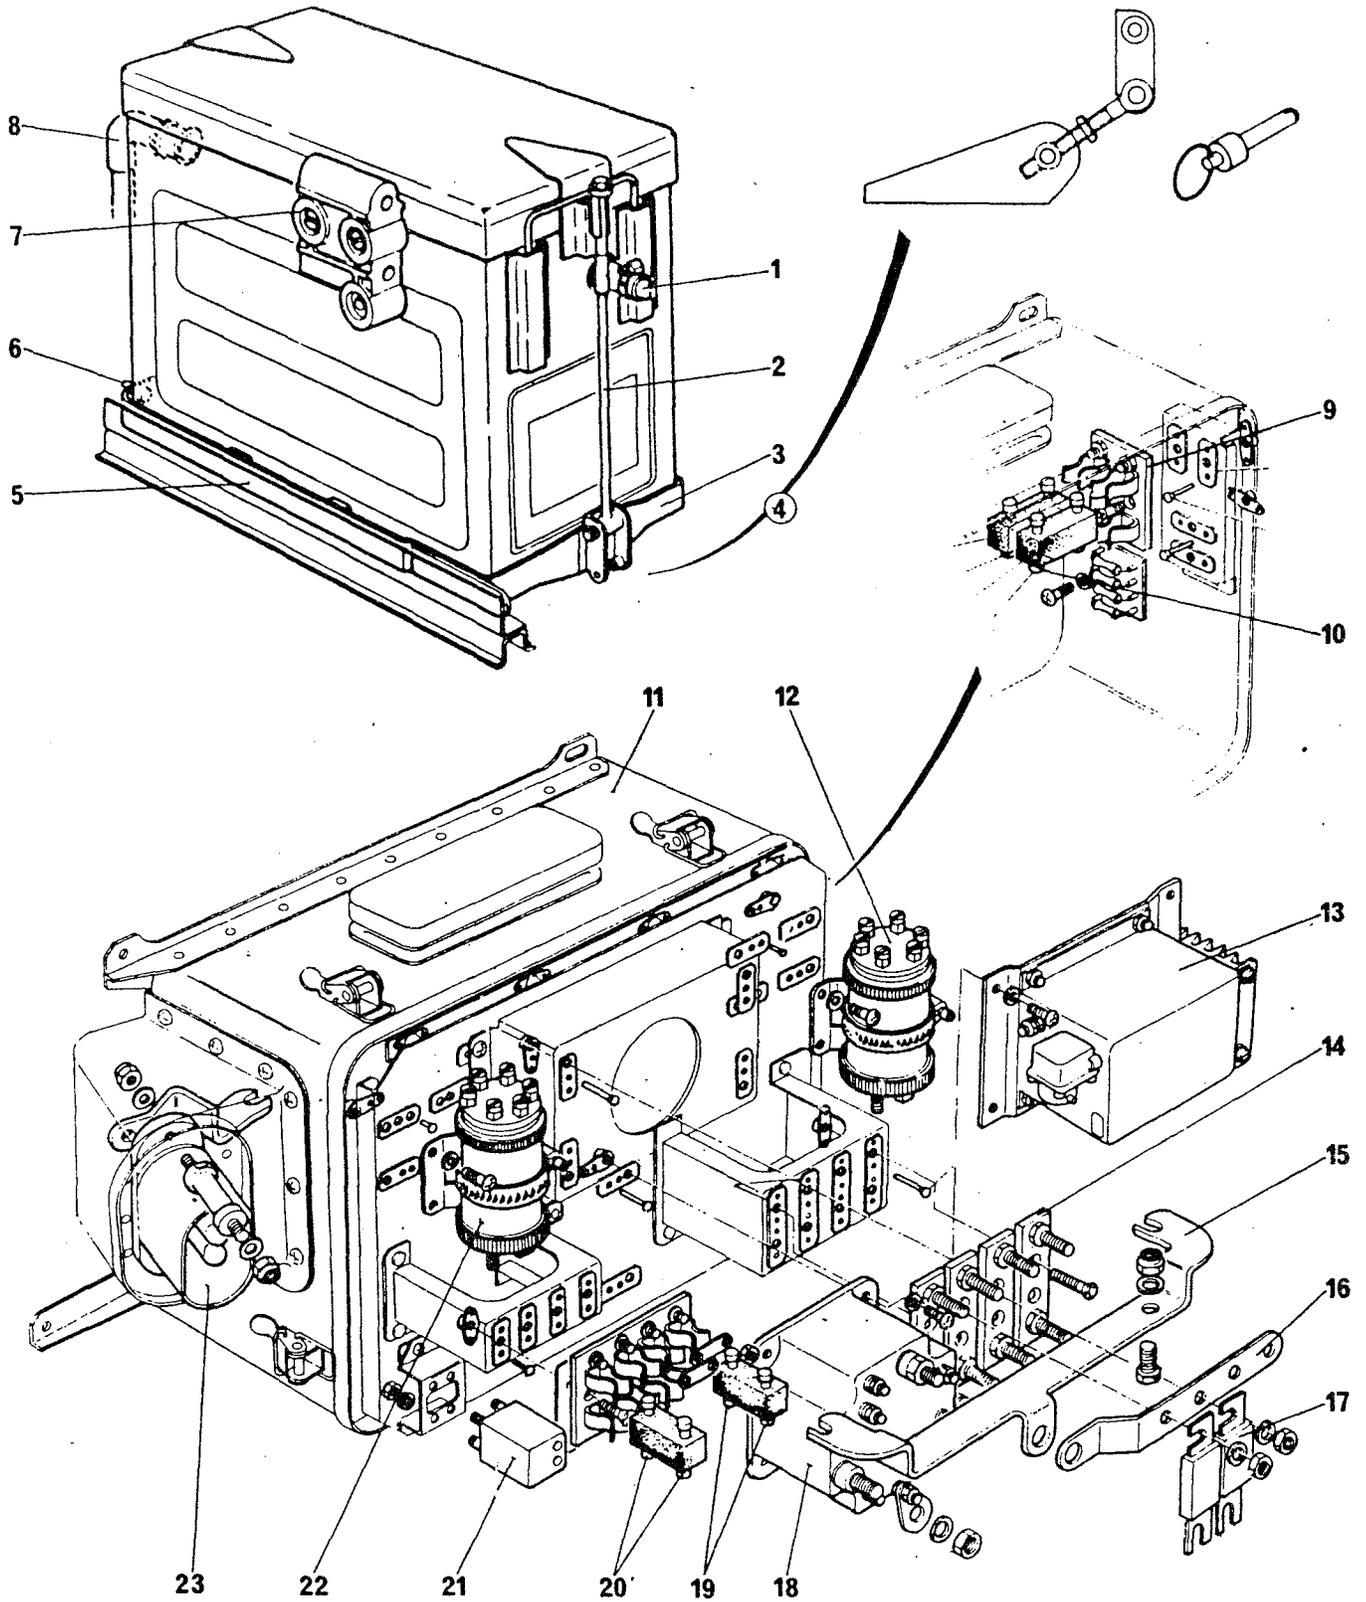

Figure 5
**B - PRINCIPAL UNITS AND COMPONENTS OF THE D.C. ELECTRICAL POWER GENERATING SYSTEM (Figure 5)**
**(1) BATTERY :**